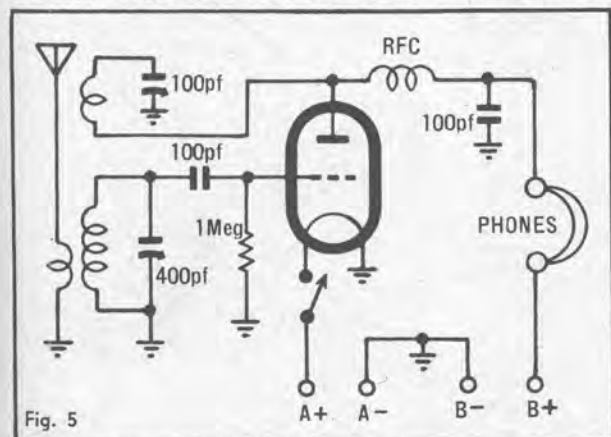

Fig. 5
**Figure 5. By using a third winding to feed back some of the RF present at the triode plate and reinforce the signals in the tuned winding, the gain and selectivity of the receiver can be improved considerably.**
Figure 5 shows a triode detector incorporating what is probably the best-known reaction circuit. Typical component values have been added for the sake of completeness.
When the reaction control of the circuits in figures 5 and 6 is set so that the detector is just below the point of active oscillation, the gain and selectivity